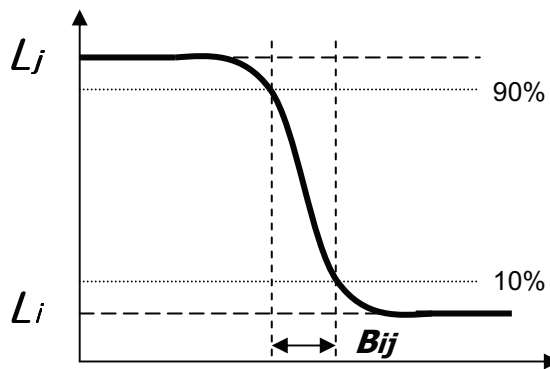

FIG. 3 MPRT
- MPRT is defined as the 10% to 90% blur-edge width B_{ij} (pixels) and scroll speed U (pixels/frame)at the moving picture. For more information, see FIG 3.